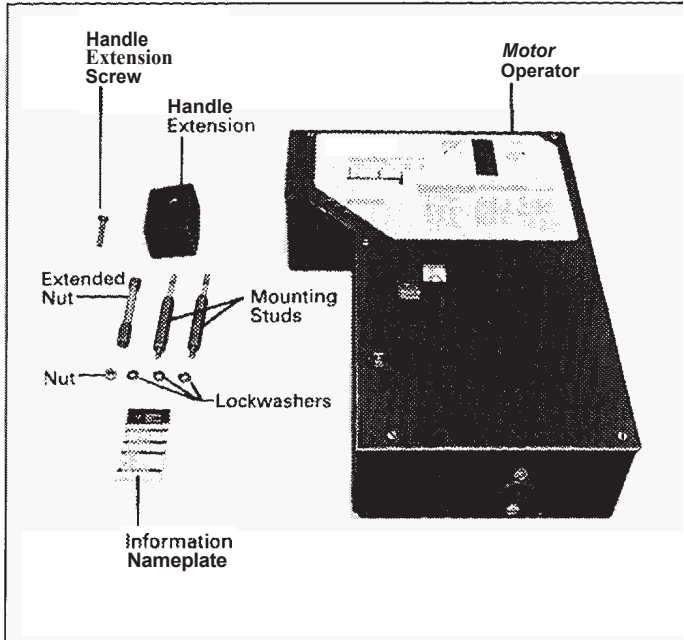
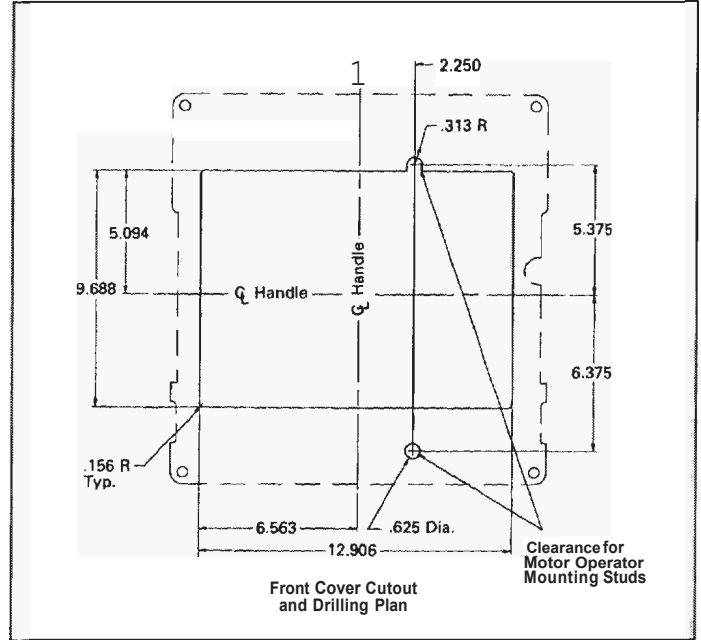

Fig. 2-1. Motor Operator Kit
Fig. 2-2. Motor Operator Mounting Stud Locations
- 2.3. Replace the two circuit breaker cover screws indicated in Fig. 2-2 with the two motor operator mounting studs and lockwashers shown in Fig. 2-1, torque to 84 in-lbs.
- 2.4. If a dead front panel is to be used, add hole and notch to the panel as clearance for the two motor operator mounting studs (see Fig. 2-2).